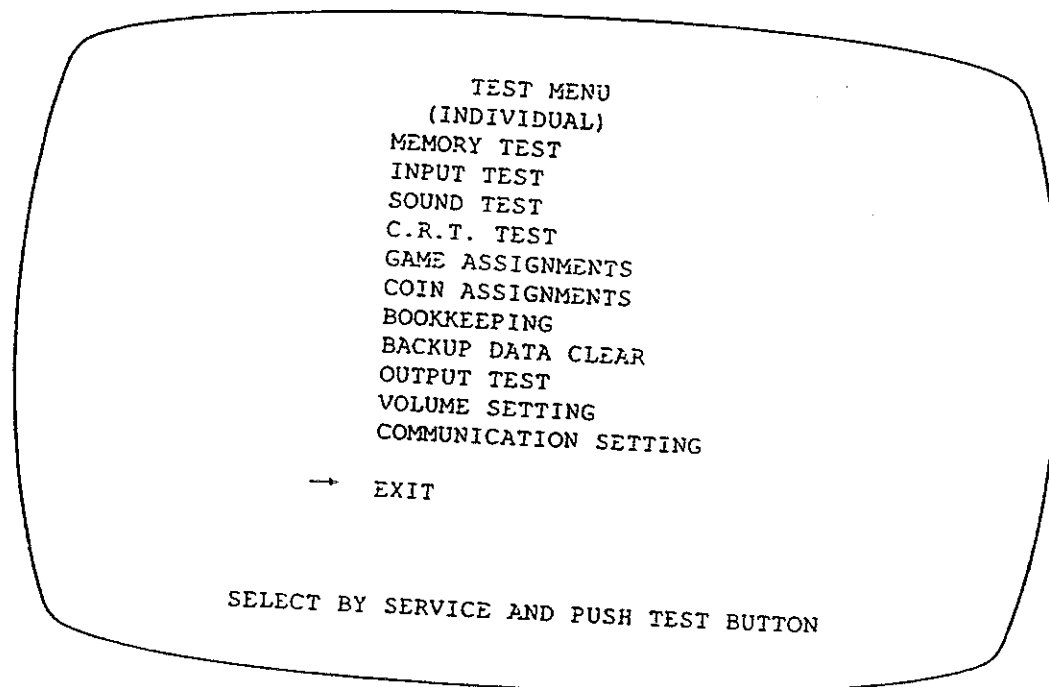

FIG. 8. 2 TEST MENU
- Press the TEST BUTTON to cause the following Test Menu to be displayed on the monitor. (FIG. 8. 2)